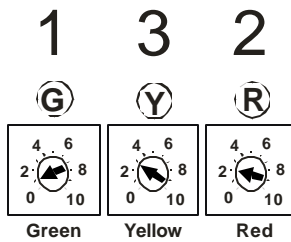

FIGURE 4
1. Start with the base setting; see Figure 4, even if you have a full exhaust system. Adjust and test only *ONE* adjustment pot at a time until you are happy with the result.